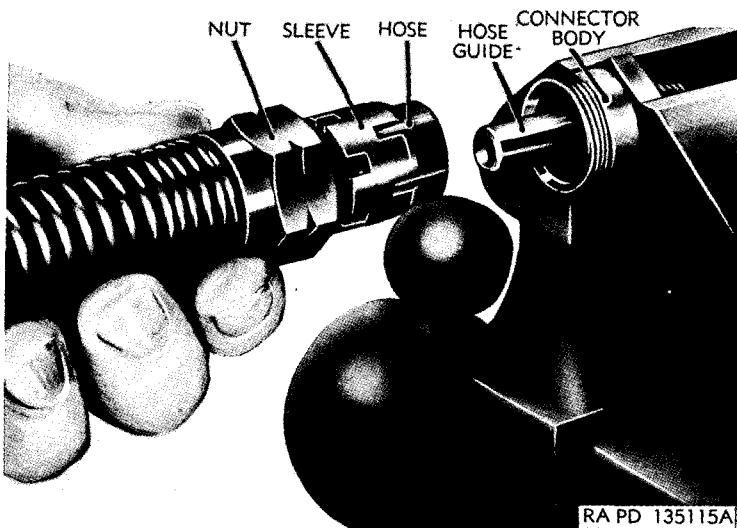

Figure 193. Placing hose in connector body.
Remove nut from connector body and pull hose out of body. Do not remove sleeve from hose. If a new piece of hose is to be installed, use a new sleeve. Do not remove hose guide (fig. 193) from connector body.
- d. Put the end of the hose in the connector body (fig. 193), making sure the end of the hose is against the bottom of the recess in the connector body.